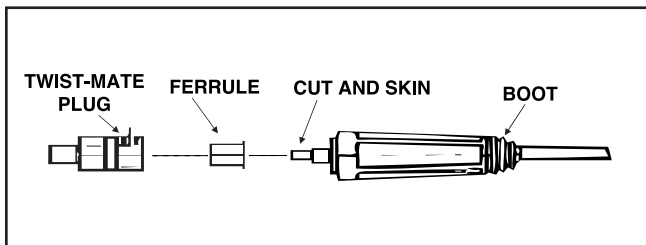

FIGURE C.5 - Spool Gun Preparation.
1. Cut the terminal lug off the end of the spool gun electrode lead and slip the rubber boot, included in the kit, over the lead jacket. See Figure C.5.